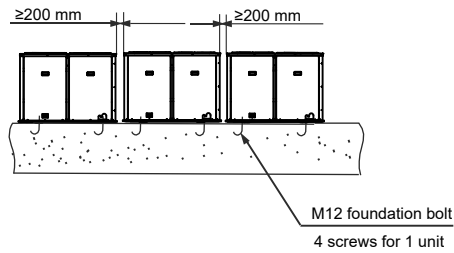

Fig. 4-4
- As shown in Fig.4-4, leave an interval of 100mm between the outdoor units.